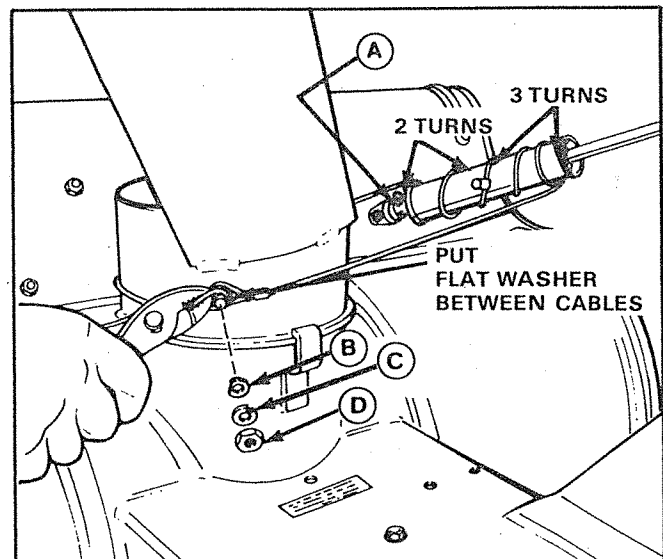

Figure 17. Installing Control Cable
6. With the spout extension facing slightly left, wind the cable around the control rod spool as shown in figure 17. Wind three turns on the rear part of the spool so that the cable leaves the spool on the lower edge as shown. Wind two turns on the front part of the spool so that the cable leaves the spool on the upper edge as shown. If necessary, loosen the cable clamp and then retighten after winding the cable.
7. Place the looped end of the cable over the stud on the spout extension (see figure 17). Place the small flat washer provided on the stud. Pull the other end of the cable around the stud as shown with a pliers. While holding the cable tight, install the cup washer (facing inward), lockwasher and nut to hold the cable. Tape any loose cable neatly to the taut cable.